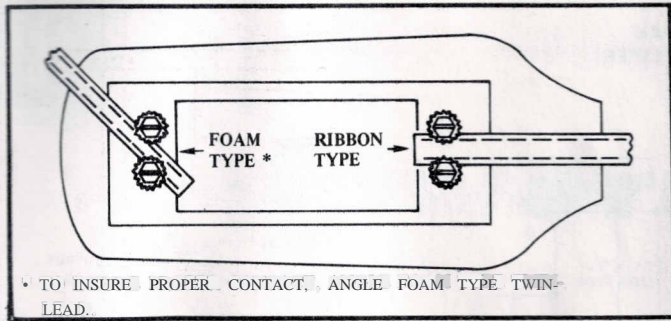

FIGURE 7 CONNECTING THE TWINLEAD
2. Cut one end of the jumper squarely, loosen the ANTENNA terminal screws on the pre-amplifier and slide the twin-lead beneath the crown-washer serrations. See Figure 7.